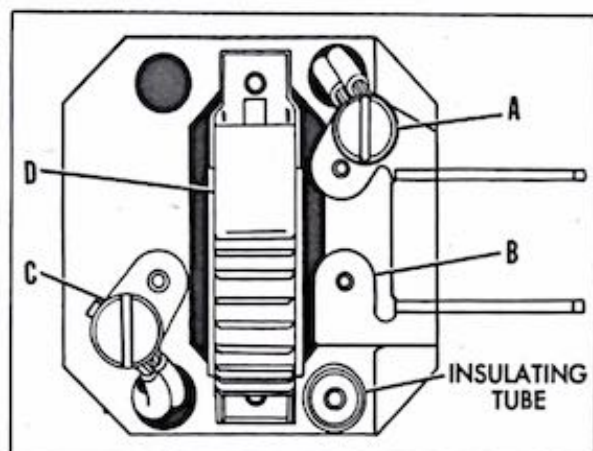

Figure 1-7. Foot switch and connections
proper operation by touching one probe of a test lamp to the connector prong (B, fig. 1-7) and the other probe to the switch terminal "C". With the switch closed (knob toward terminal "C"), the test lamp should light; with the switch open there should be no light.
(1) Disconnect the leads from the terminals; tag the leads with an indication of their positions.
(2) Clean the wires if dirty. Bend the longer lead from the headlight at the place where the insulation has been removed and insert it through the hole of the foot switch adjacent to terminal "C" as shown in figure 1-7. Connect the bare section of wire to the terminal.